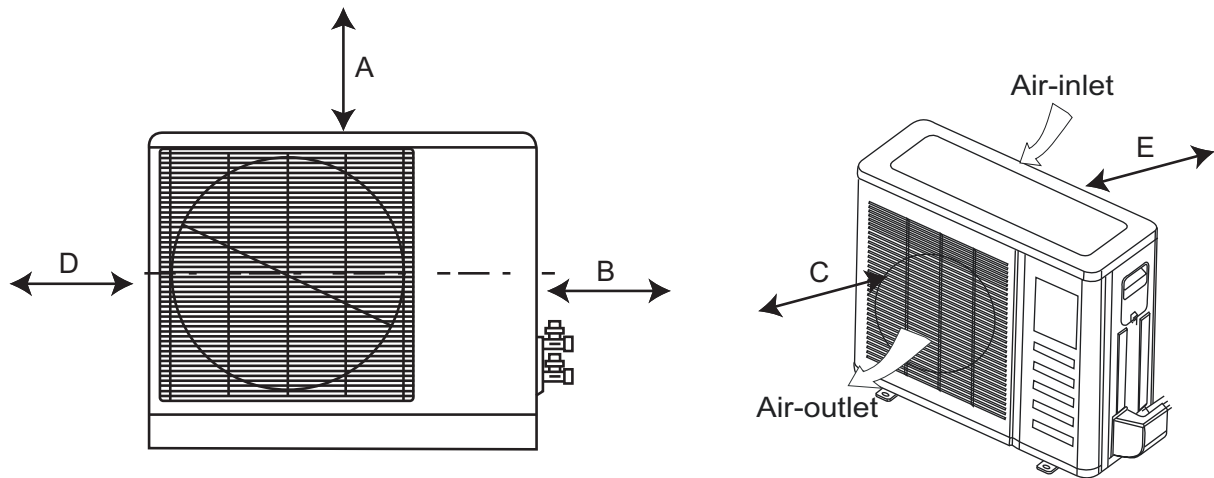

Fig. 6 — Clearances
Allow sufficient space for airflow and unit service.see Fig. 6 — on page 9 for the minimum required distances between the unit and walls or ceilings.
- A location with appropriate clearances as outlined (see Fig. 6 — on page 9).